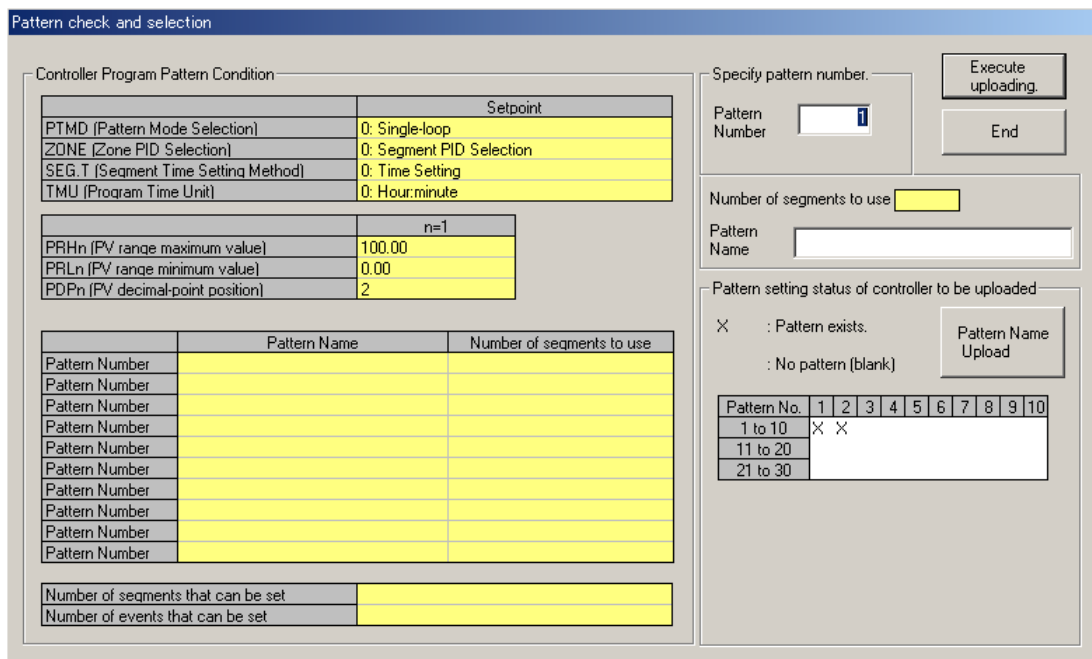

Figure 10.2.3 Pattern Check and Selection Dialog Box (Upload)
- (2) Click **Front communication** (this means to use the communication port at the front of the controller).
- (3) From the **Serial port** list, select the communication port of the personal computer from **COM1** to **COM16**.
- (4) Connect the controller to the personal computer, and then click **OK**.
- (5) When communication is established, the Pattern Check and Selection dialog box (Figure 10.2.3) appears, showing the program pattern setting status of the controller.
- (6) Connect the controller to the personal computer, and then click **OK**.
- (7) When communication is established, the Pattern Check and Selection dialog box (Figure 10.2.3) appears, showing the program pattern setting status of the controller.
- (8) Enter the pattern number in the **Pattern Number** box and click **Execute uploading**.
- (9) When the program pattern has been successfully uploaded, the tool displays a message stating "Program pattern data has been uploaded from the controller." Then, click **OK**.
- (10) Go on to Section 10.3.2.